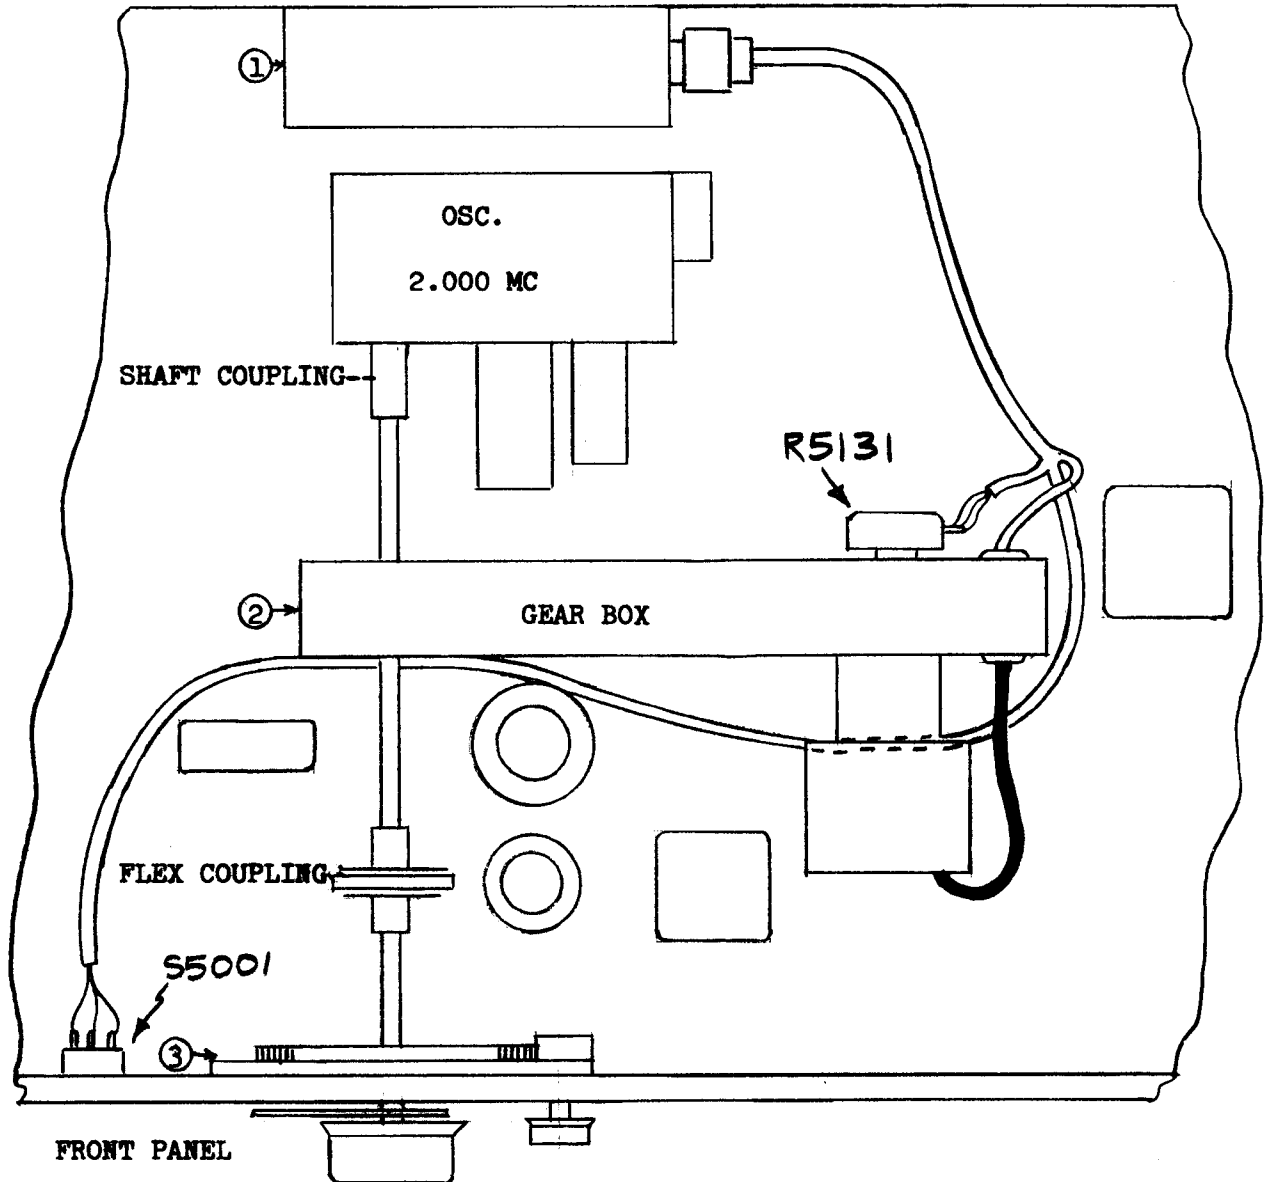

FIGURE 5 TOP VIEW
- 11) Mount item (2) using items 9, 10, 11 and 4. SEE Figure 5.
- 12) Connect shaft to shaft coupling to oscillator. Do not tighten shaft coupling at this time. (SEE Figure 5)